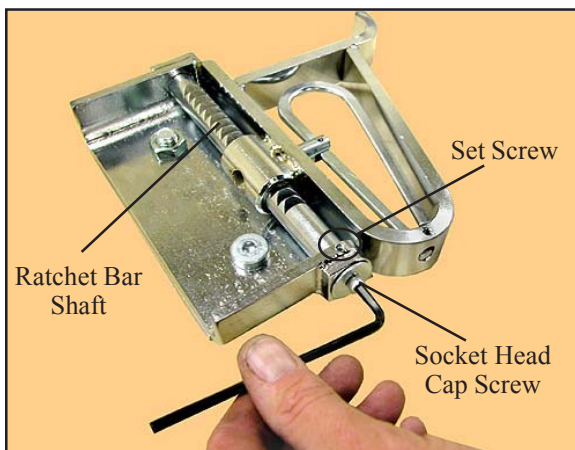

Figure 3 - Adjusting the Set Screw and Socket Head Cap Screw
1. Lower the hook momentarily and use a 3/32" Allen wrench to loosen the set screw located **on top** of the ratchet bar shaft (Figure 3). Do not remove the set screw - loosen it only. Then raise and engage the hook. (If you can't raise the hook, the set screw is too loose.)
2. Use a 5/32" Allen wrench to **loosen** the socket head cap screw at the rear of the ratchet bar, Figure 3. (To loosen: turn counter-clockwise).
3. At the rear of the ratchet bar shaft, use a 5/32" Allen wrench to **tighten** the socket head cap screw, Figure 3. (To tighten: turn clockwise).